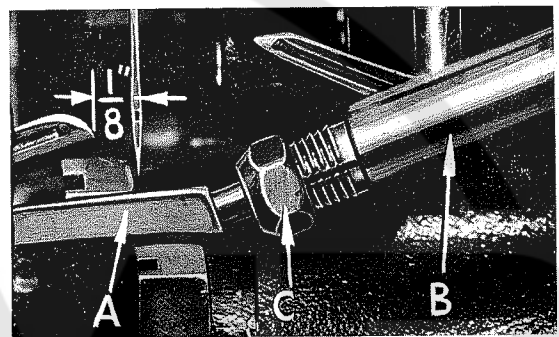

Fig. 5
At this point, insert lower looper (A, Fig. 5) into bar (B). With lower looper at left end of its stroke, set looper point $\frac{1}{8}$ inch from center of needle (Fig. 5), using looper gauge No. 21225- $\frac{1}{8}$. Do not have lower looper deflecting needle. Tighten nut (C).